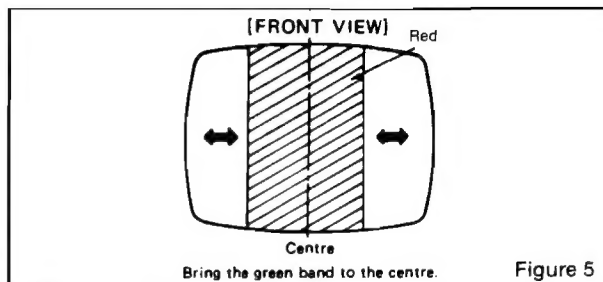

Figure 5
- 1.7 Spread the tabs apart as little as necessary and rotate both rings together to center the red band horizontally on the face of the CRT (approximate). (See Fig. 5)